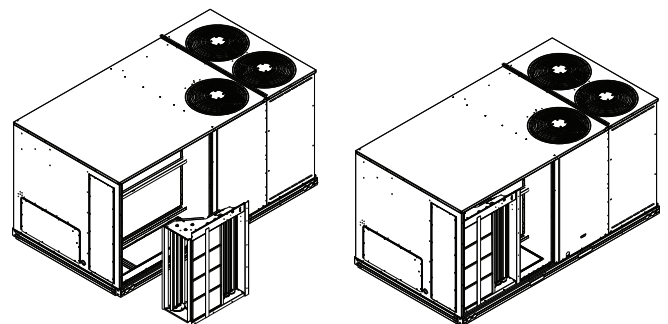

Fig. 6 — Low Leak Horizontal EconomizerONE (CRECOMZR110A00) Positioned for Installation in Unit
10. Set the EconomizerONE O/A assembly upright. (See Fig. 6.)
11. Insert the EconomizerONE assembly into the rooftop unit, positioning it to the far left side of the opening. (See Fig. 6.) Slide the EconomizerONE all the way back into the RTU until it locks into the horizontal opening.